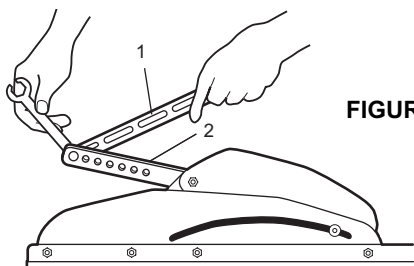

FIGURE 5
- Unbolt the extension arm from the door arm (Figure 5).